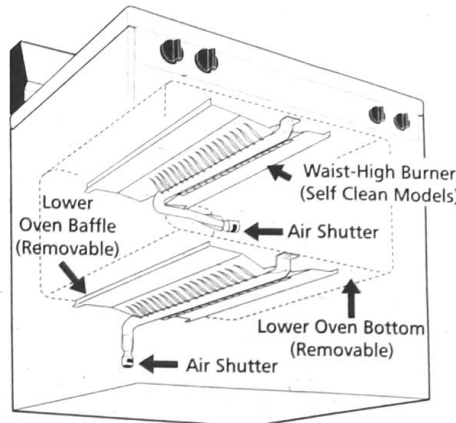

Fig. 17
- Observe the flame to determine if the broiler burner flame is properly adjusted. It should be steady with approximately 1" blue cones and no yellow or orange flame tips (See Fig. 17).